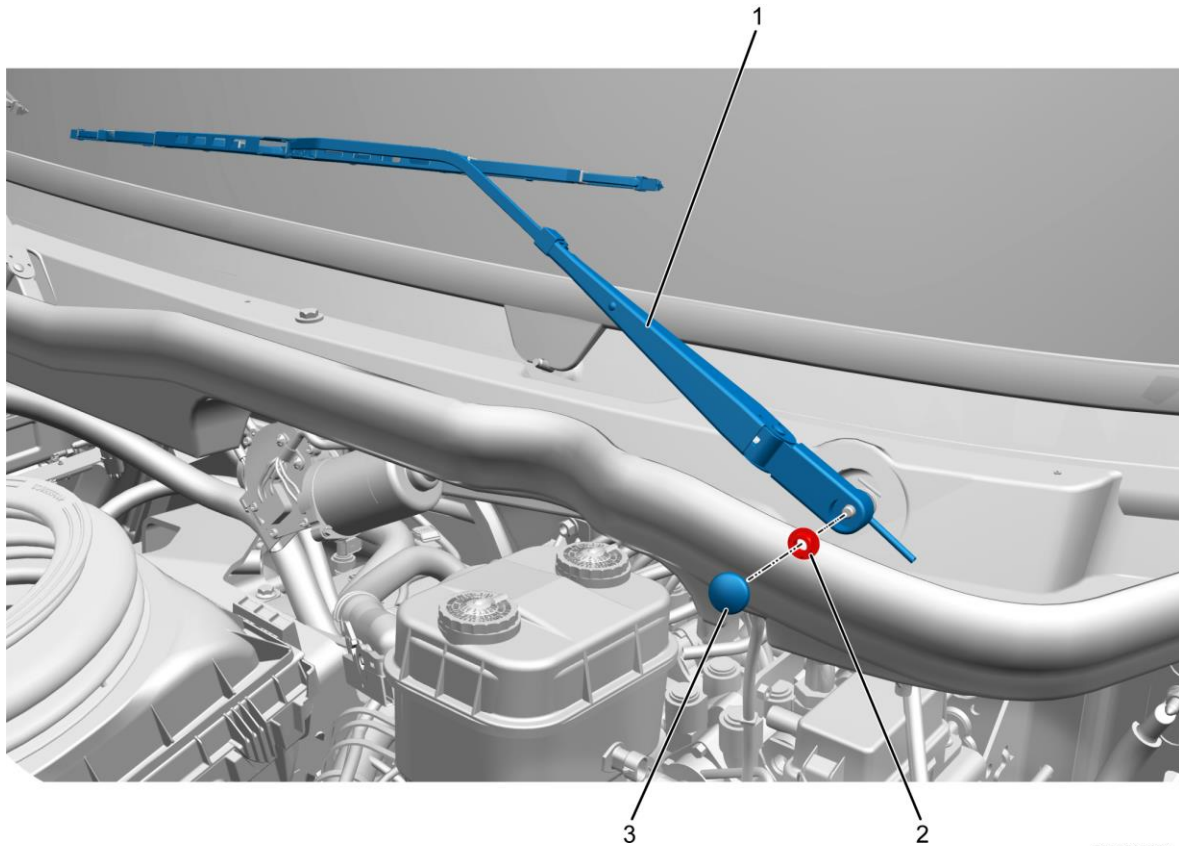

Figure 2. Windshield Wiper Arm
8. Remove cap (Figure 2, Item 3) from windshield wiper arm (Figure 2, Item 1) and save for reuse.
9. Remove M10 nut (Figure 2, Item 2) and save for reuse. Remove wiper arm (Figure 2, Item 1) and save for reuse.
23. Position wiper arm (Figure 2, Item 1) on motor pivot shaft.
24. Install M10 nut (Figure 2, Item 2). Using torque wrench, tighten M10 nut to 11–12.5 lb-ft (15–17 N·m).
25. Install cap (Figure 2, Item 3).